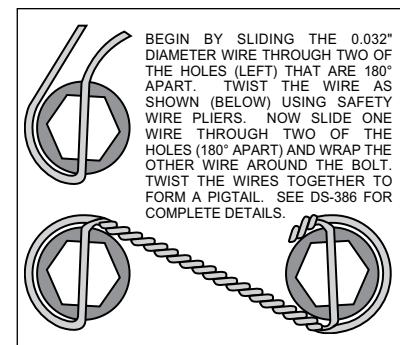
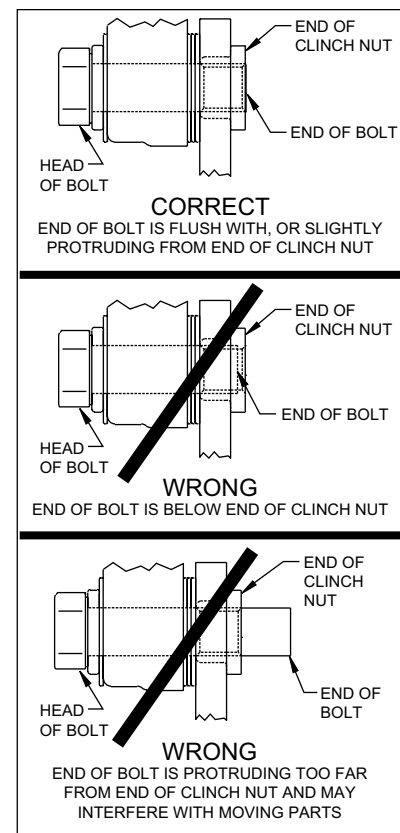

Figure 4. Safety Wire Diagram
Figure 5. Clinch Nut Engagement Diagram
CAUTION: All mounting bolts must fully engage clinch nuts. Be sure to check that all bolts are either flush or protruding through flanged side of clinch nut after shimming, Figure 5.
•With the slot pointing upward and the mounting ears pointing towards the rear of the vehicle, install the caliper mounting bracket (1) to the housing flange using the stock Original Equipment Manufacturer (OEM) bolts and nuts. Stock OEM hex nuts that retain the bracket (1) should be on the wheel side of the bracket. Apply red *Loctite*® 271 to the stock OEM bolt threads and torque to OEM specifications. **NOTE:** Some brackets act as the bearing retainers, while others help locate the bearing in the axle housing flange. If the stock bearing plates are still on the axle, the caliper mounting brackets (1) should be located between the axle housing flange and the bearing retainer plate. Make sure the heads of the caliper mounting bracket insert nuts are FACING OUTWARD TOWARDS THE WHEEL
•The rotor (3) has two sides. A flat side and an inset side. Bolt hat (2) to flat side of rotor (3) using bolts (5). Apply red *Loctite*® 271 to the bolt threads and torque to 25 ft-lb using a criss-cross pattern. Safety wire bolts using standard 0.032 inch diameter stainless steel safety wire as shown in Figure 4. Please refer to Wilwood's data sheet DS-386 (available at www.wilwood.com/Pdf/DataSheets/ds386.pdf) for complete safety wire installation instructions.
•Align the correct hole pattern in the hat (2) with the stud pattern on the axle flange. **NOTE:** Some OEM and after market axles come with stud sizes larger than 0.50" diameter. Verify stud size and have a qualified machine shop drill the hats to the correct size. Slide the hat/rotor assembly (2 and 3) over the wheel studs and against the axle flange face.
•**NOTE:** Please reference the caution statement at the beginning of the assembly instructions. Mount the caliper (6) over the rotor (3) and onto the caliper mounting bracket (1) using washers (7) and mounting bolts (8). View the rotor through the top opening of the caliper. The rotor should be aligned in the center of the caliper. If not, adjust the caliper by using 0.032 inch shims (9) by placing them between the caliper mounting bracket (1) and the caliper (6). Add as many shim washers (7) as necessary to achieve the correct alignment. **NOTE:** The end of the bolt must be flush with or slightly protruding from the head of the clinch nut. See Figure 5. Place spare shims (7) between washer and caliper mounting ear to achieve the proper mounting fastener configuration. Always use the same amount of shims on both the top and bottom caliper mounting bolts (8). Apply red *Loctite*® 271 to the mounting bolt threads (8), torque to 40 ft-lb. Caliper mount bolts may be safety wired for additional security.
•Position the Wilwood disc brake pads (10) into the caliper (6) and fasten with cotter pin (4). Steel backing plate side of brake pad should face the caliper pistons.